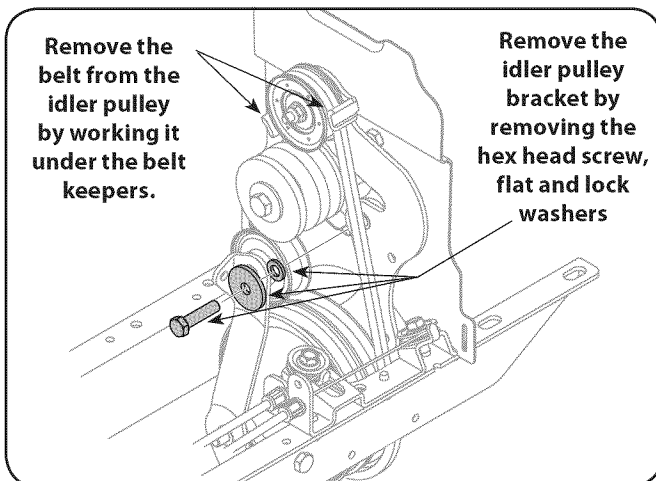

Figure 8-4
5. Remove the idler pulley bracket by removing the 5/16-24 hex head screw, flat washer and lock washer, as in Fig. 8-4.